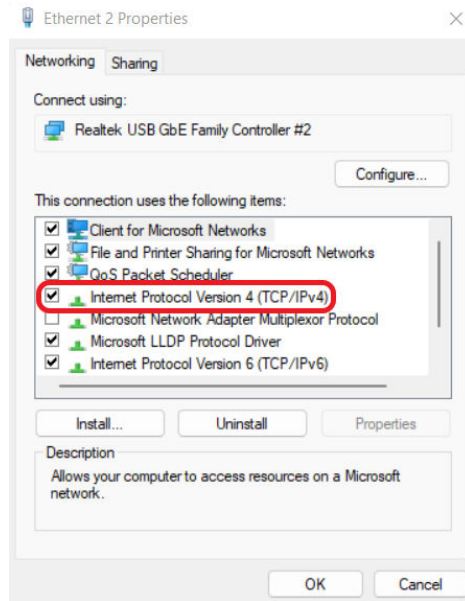

Figure 19: Network Configuration – 'Ethernet Adapter Properties' window
- If you are not yet connected via ethernet cable to the controller the system will automatically open the 'Ethernet Properties' window shown in Figure 19 below. In either case you need to navigate to the 'Ethernet Properties' window and double-click on 'Internet Protocol Version 4 (TCP/IPv4)' – highlighted in Figure 19 below – to proceed.